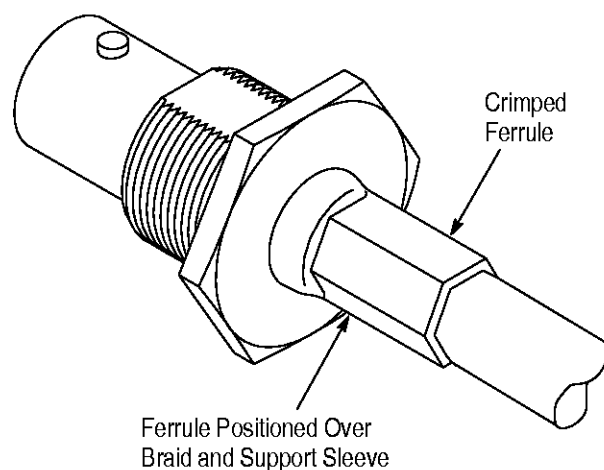

Figure 5
6. Slide ferrule forward over cable braid and support sleeve until it is positioned against the shoulder of the jack body. See Figure 5.
7. Crimp ferrule using the hand tool (fitted with the appropriate die assembly). See Figure 5.